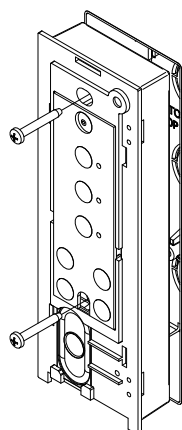

Fig. 3
3. As shown in **Fig. 3**, once the wires are connected, fix the intercom to the flush mounting box using a Phillips screwdriver and the two screws provided.
⚠ In order to avoid malfunctions, please do not over tighten the fixing screws shown in Fig. 3.